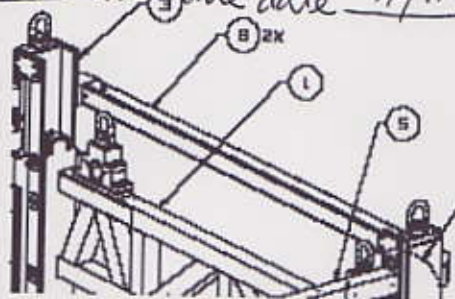

Figure 2
3. Install the lateral tie-bar assembly, SEG38117018-301, item 8 in Figure 2, along with 16 bolts, SDG38117090-801, and washers, NAS1587-8C. Record the locking torque and final torque per drawing SEG38117000.